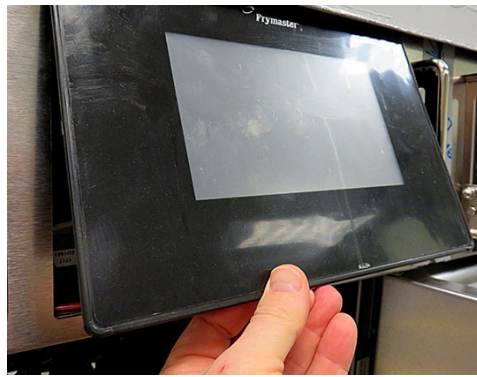

Figure 10
14. Lift the controller out from the bezel (see Figure 10).